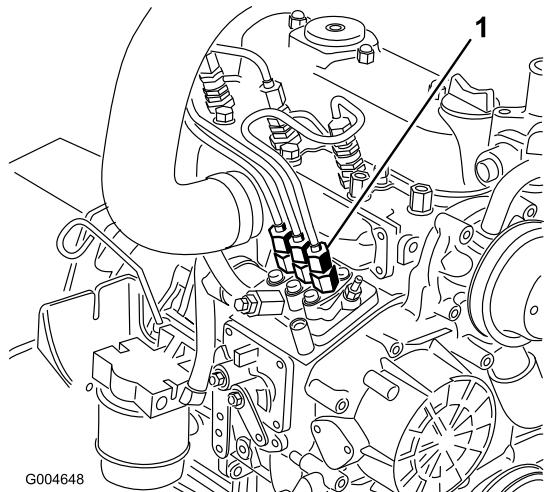

Figure 64
1. Place a rag under the pipe connection coming from the injection pump to the No. 1 injector nozzle as illustrated in Figure 64.